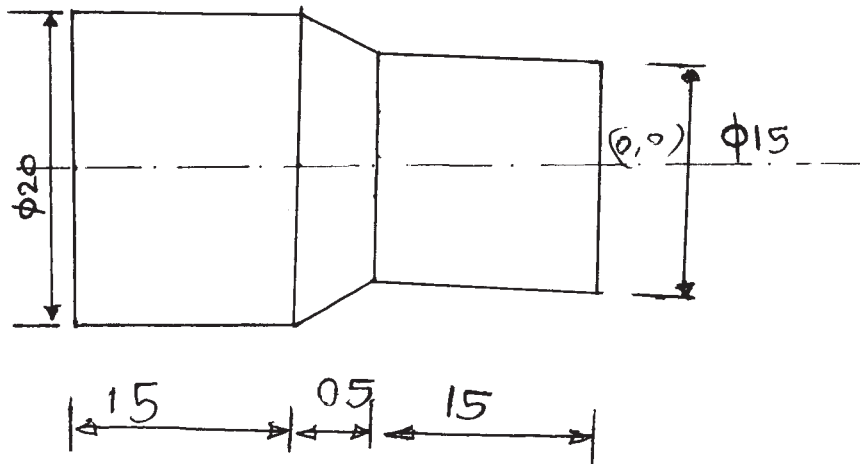

Fig. No. 1
- a) Write part program for the component given in Figure No. 1. Also give co-ordinate system.